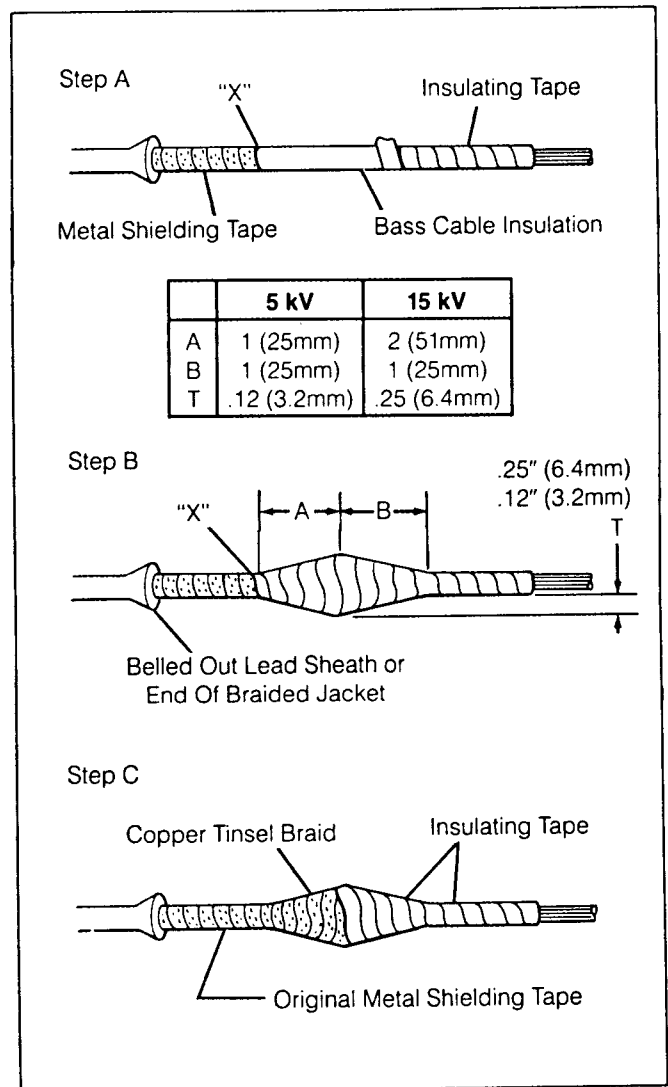

Figure 59. Preparing Cable
The body of the three-conductor pothead is offset. If two potheads are mounted in one unit, the offsets are therefore in opposite directions. This provides more work space when wiping lead to the wiping sleeve of the pothead and the lead jacket of the cable. Pothead dimensions and parts are shown in Figure 59.
5. Remove lead sheath from the cable to point marked, being careful not to damage insulation. Bell out lead sheath as shown in Figure 59. For braided cables, remove braid down to point marked.
- Solder cables solidly into the studs. (For voltages above 7500, make stress cones on cables as shown in Figure 59.) If stress cones are not desired proceed directly to Step 9.
Step A — Preparing the Cable — Determine the length of each conductor to extend from the position of the wiping sleeve or packing gland to the point of connection to the stud terminal. Establish location of stress relief cone on the cable so that it will be approximately in the center of the pothead body. Remove shielding and conducting tapes down to bottom of stress cone (point "X", Figure 59.) Bare the end of the conductor and solder to stud terminal.